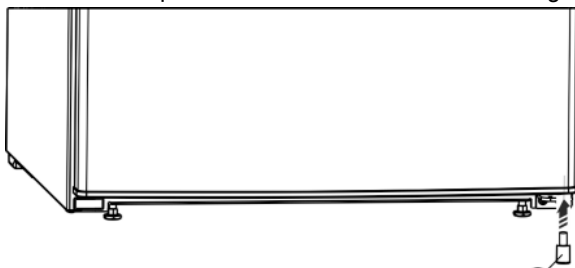

Fig. 6
- ▶ Insert the spacer Fig. 6 (13) back under the right-hand side of the door, as it is important for the stability of the appliance.